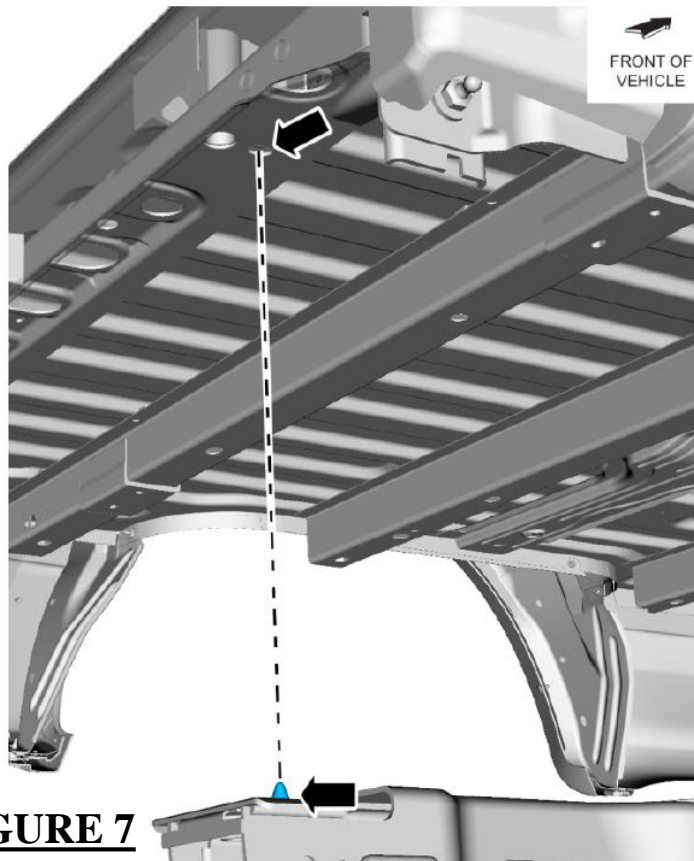

FIGURE 7
- Ensure the locating bolts shown in figure 7 are properly installed to both the pickup frame and pickup bed to prevent misalignment.